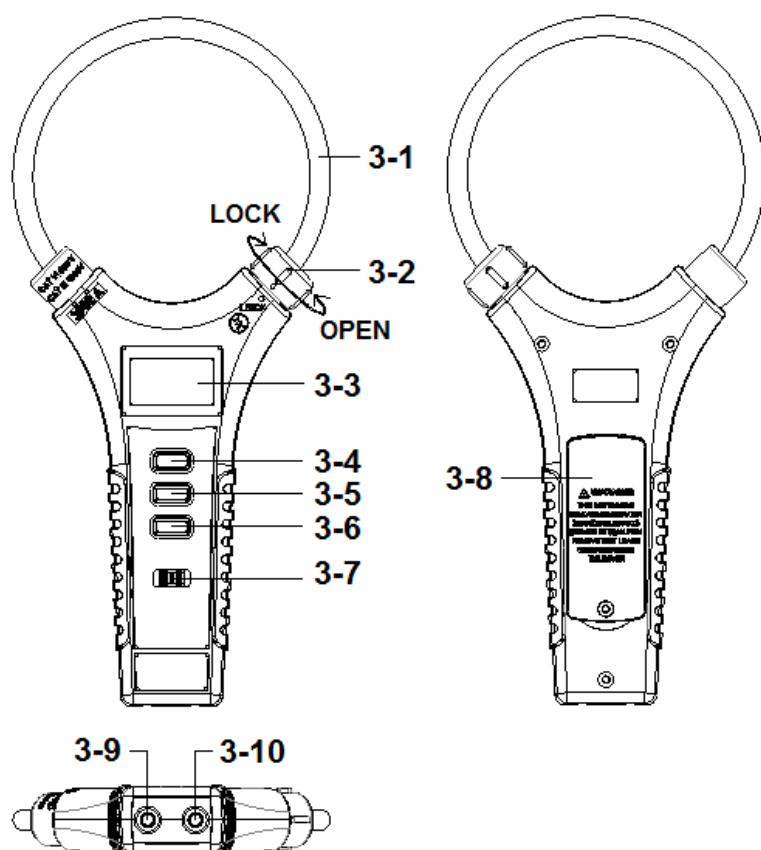

Fig. 1
- a. When not use the meter,press the "POWER button" switch " (3-4, Fig. 1), turn off the power complete.
Press the "select button" (3-6, Fig. 1) and at the same time Press the power switch (3-4, Fig. 1), turn on the power.
- 1) Connect BLACK test lead into " COM " terminal (3-9, Fig. 1)
- 2) Connect RED test lead into " V " terminal (3-10, Fig. 1).
- 3) Select the " Function switch " (3-7, Fig. 1) to the " V " position, Display will show " SMART " marker. meter is under " Smart " mode for voltage AC/DC auto scanning.
- 5) Push the " SELECT button " (3-6, Fig. 1) to select the " ACV " or " DCV " measurement.
- 1) Connect BLACK test lead into " COM " terminal (3-9, Fig. 1).
- 2) Connect RED test lead into " Ω " terminal (3-10, Fig. 1).
- 3) Select the " Function Switch " (3-7, Fig. 1) to the " Ω " position.
- 5) Operation "smart" mode at the push SELECT button (3-6 Figure 1) meter will perform "Auto Range" Displays "AUTO" symbol on the LCD.
- 1) Select the " Function switch " (3-7, Fig. 1) to the "A " position,
- 2) Unscrew according to the illustrated "Probe Locker" (3-2, Fig. 1)
- 3) The flexible probe into the "Probe Locker" (3-2, Fig. 1)
- 1) Connect BLACK test lead into " COM " terminal (3-9, Fig 1.)
- 2) Connect RED test lead into " $\cdot \cdot \cdot$ " terminal (3-10, Fig 1)
- 3) Select the " Function switch " (3-7, Fig. 1) to
- 2) Connect RED test lead into " Ω " terminal (3-10, Fig 1.)
- 3) Select the " Function switch " (3-7, Fig. 1) to the
- 1) Select the " Function switch " (3-7, Fig. 1) to the " Ω " position.